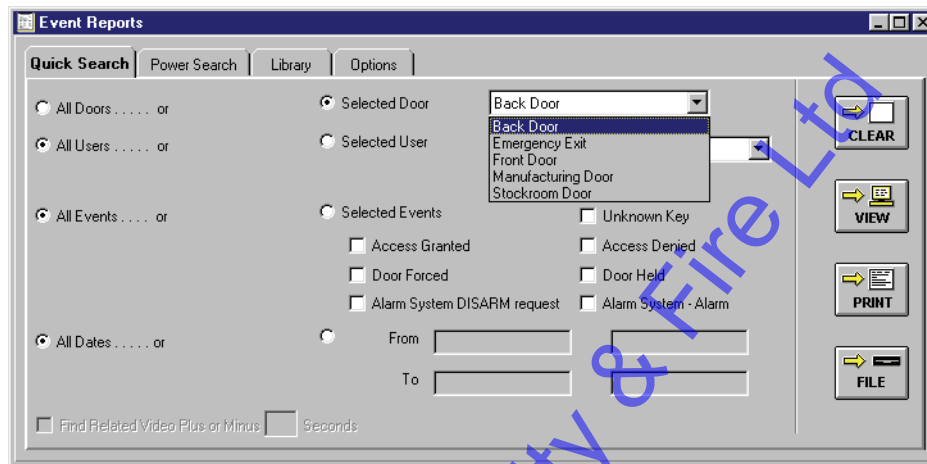

Figure 7-12: Available Door List
2. To select one door, click on the **Selected Door** radio button. A list of all available doors appears in the window (see Figure 7-12).